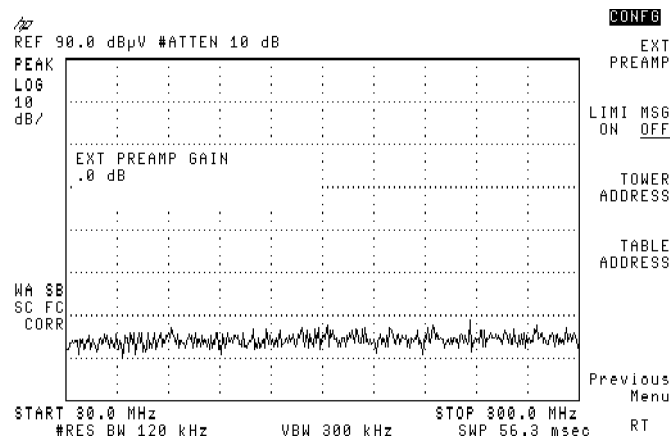

Figure 4-1. Preamplifier Gain Selected as Active Function
1. Press **EXT PREAMP**. The message **EXT PREAMP GAIN** will be displayed along with the last offset entered. See Figure 4-1.